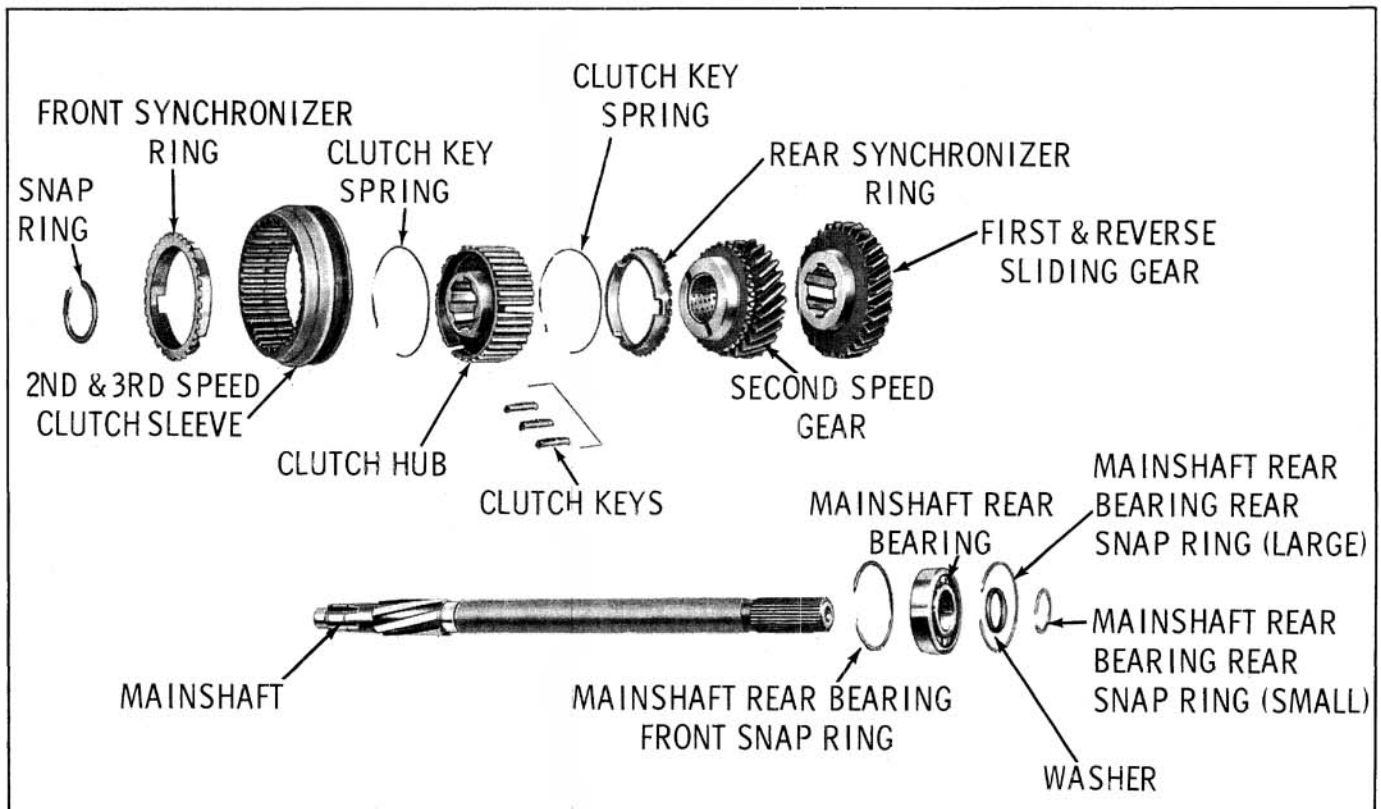

Fig. 7-42 Mainshaft Assembly
4. Remove synchronizing ring and second speed gear from mainshaft. (Fig. 7-42)
### MAINSHAFT Assembly (Fig. 7-42)